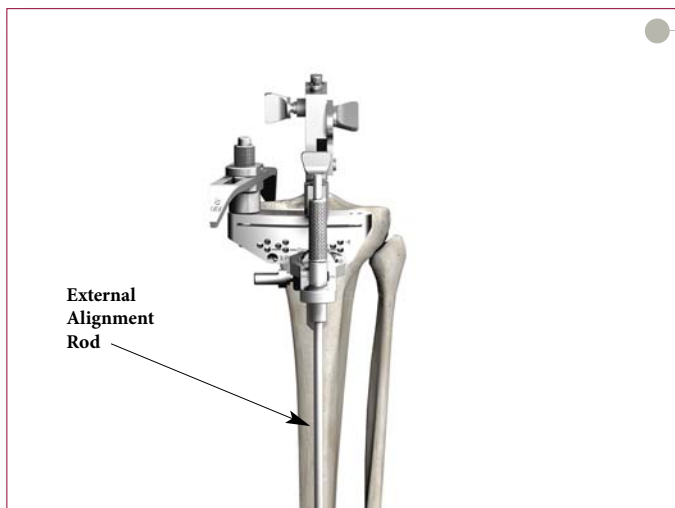

Figure 52
- ▶ Attach the alignment handle to the resection guide, and slide a long alignment rod into the alignment handle. When correct varus/valgus alignment is attained, the pin should be centered over the ankle (Figure 52).